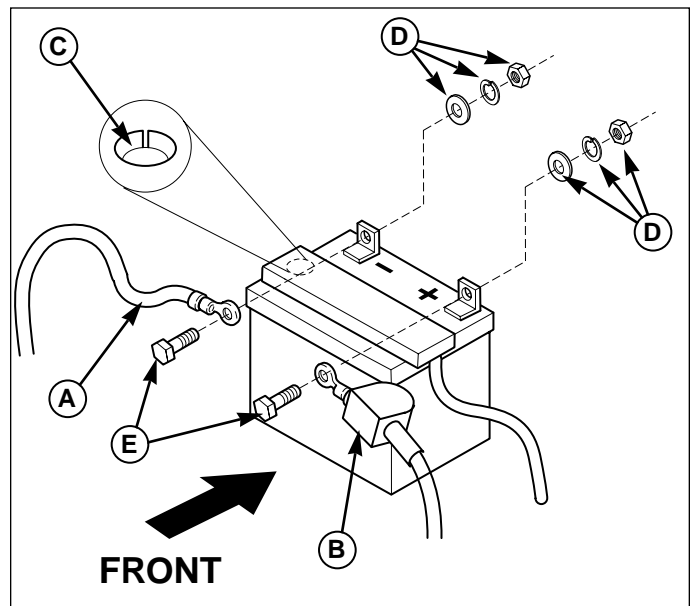

Figure 16. Battery Cables & Fill
2. Remove the battery filler cap(s). Fluid must be even with the split ring full mark (C, Figure 16). If not, add distilled water.
1. Disconnect the cables from the battery, negative cable first (A, Figure 16).
6. Reattach the battery cables, positive cable first (B, Figure 16).